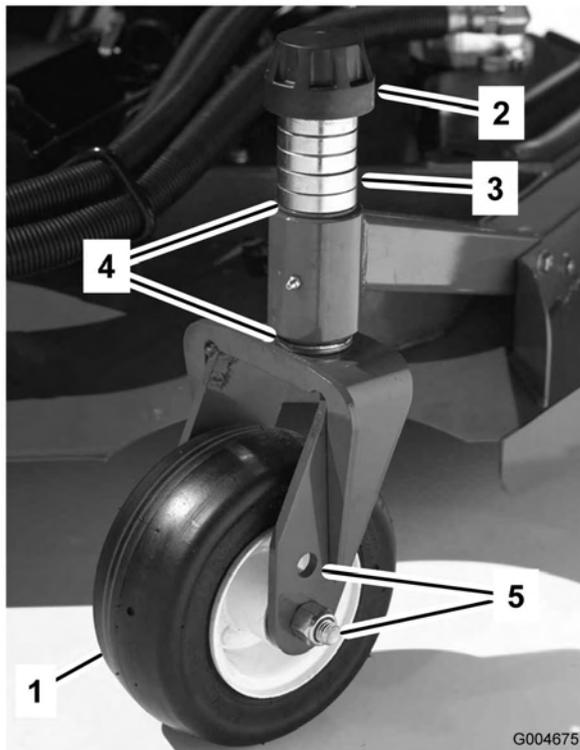
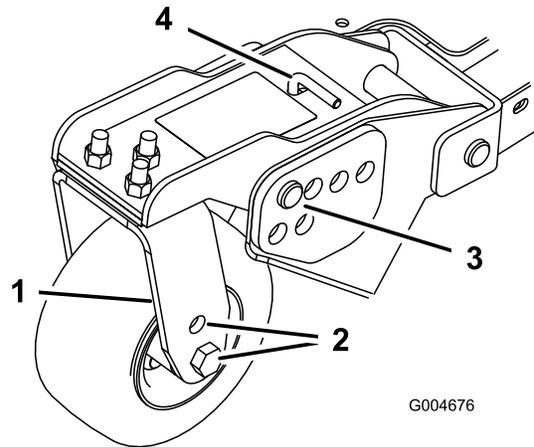
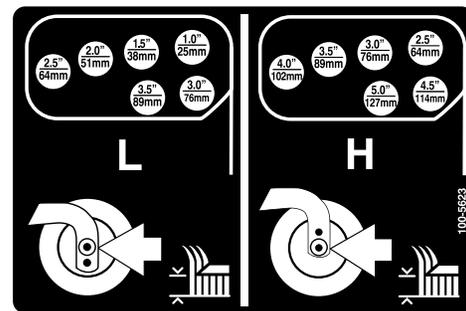

Figure 18
Figure 20
Figure 21
1. Position the castor wheel axles in the same holes in all of the castor forks (Figure 18 and Figure 20). Refer to the following chart to determine the correct hole for the setting.
2. Remove the tensioning cap from the spindle shaft (Figure 18) and slide the spindle out of castor arm. Put the two shims (1/8 inch [3 mm]) onto spindle shaft as they were originally installed. These shims are required to achieve a level across the entire width of the cutting units. Slide the appropriate number of 1/2 inch spacers onto the spindle shaft to get the desired height-of-cut; then slide the washer onto the shaft.
- Remove the hairpin cotter and clevis pins from the castor pivot arms (Figure 20).
height-of-cut bracket holes in the cutting unit frame (Figure 20 and Figure 21).